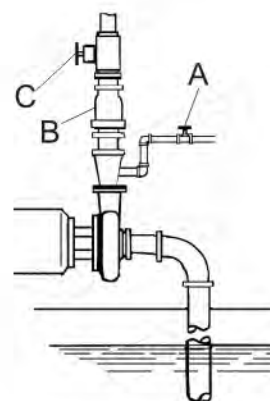

Figure 9 - Pump Above Supply
- 2.2.1 Close discharge valve (See Figure 9 item C) and open air vents.
- 2.2.2 Open valve in outside supply line (See Figure 9 item A) until liquid flows from vent valves.
**NOTE: Use a type of check valve system (See Figure 9 item B) to keep supply line and pump casing flooded with liquid. Otherwise the pump must be primed before each operation.**